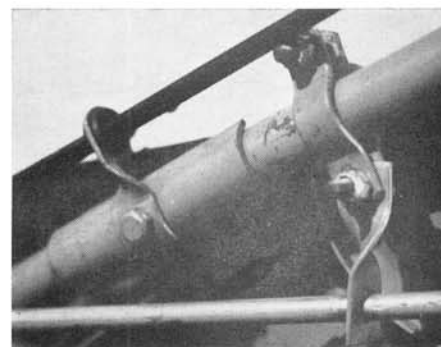

Figure 32
3. Attach the Control Rod to the Tractor Handle as shown in Figure 32.